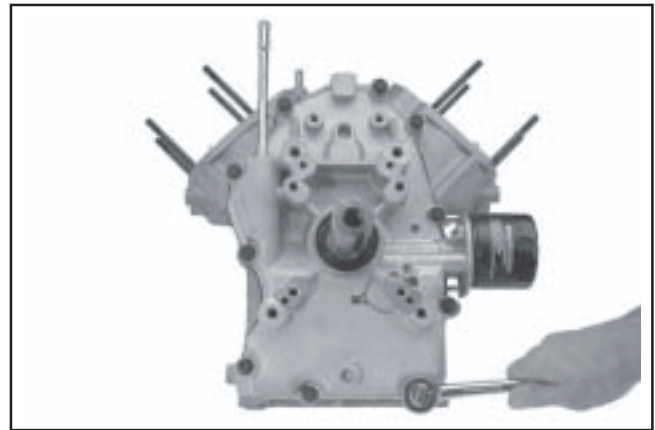

Figure 9-58. Removing Closure Plate Screws.
1. Remove the ten hex. flange screws securing the closure plate to the crankcase. See Figure 9-58. If a thick washer is installed under the screw head in the #10 location, and/or one silver (ground) screw is used, (normally the No. 4 or 6 position), note these special assembly details for proper reassembly later.